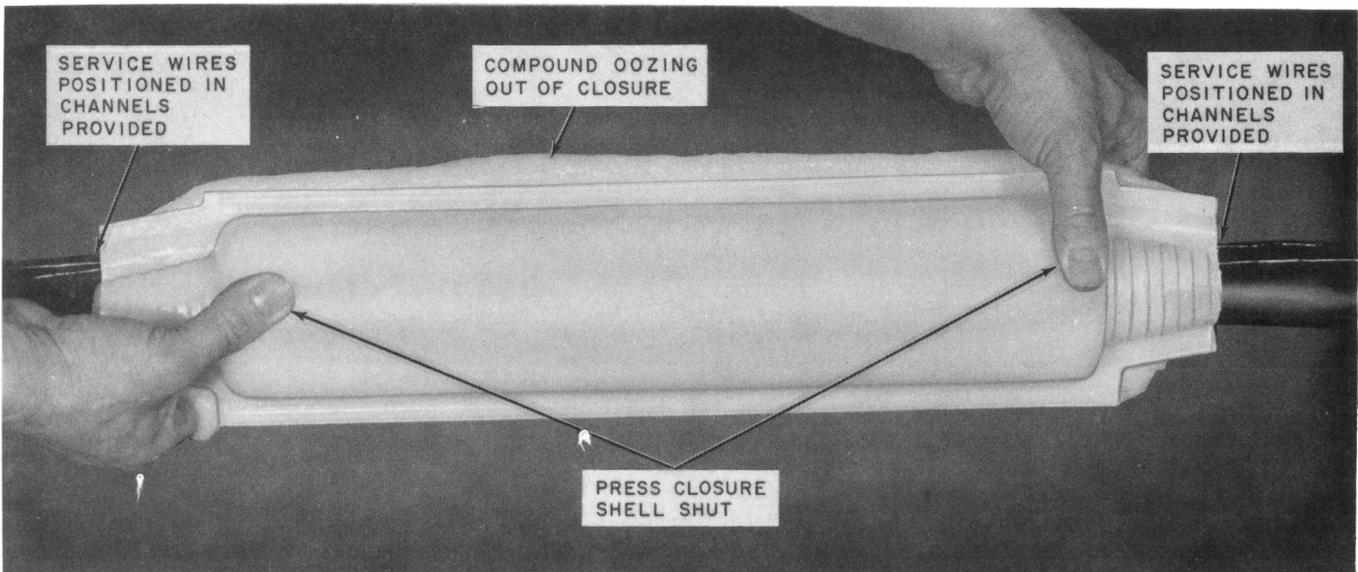

Fig. 14—Closing Shell
- 3.16** Close and press shell shut (Fig. 14). Assure the service wires are placed in the channels provided. (A maximum of three 2-pair or two 5-pair service wires per channel.) The compound